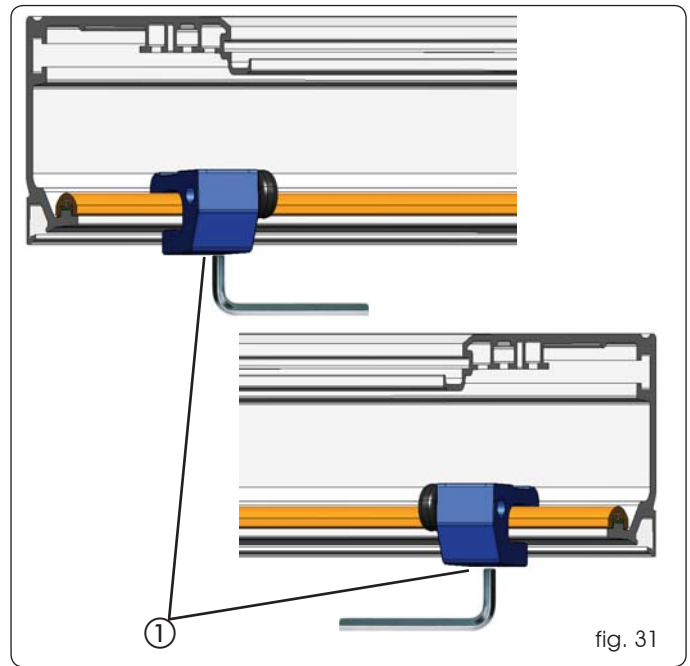

fig. 31
- Loosen the Allen screws of the mechanical stops (Fig. 31 ref. ①) and take them to the ends of the support profile.